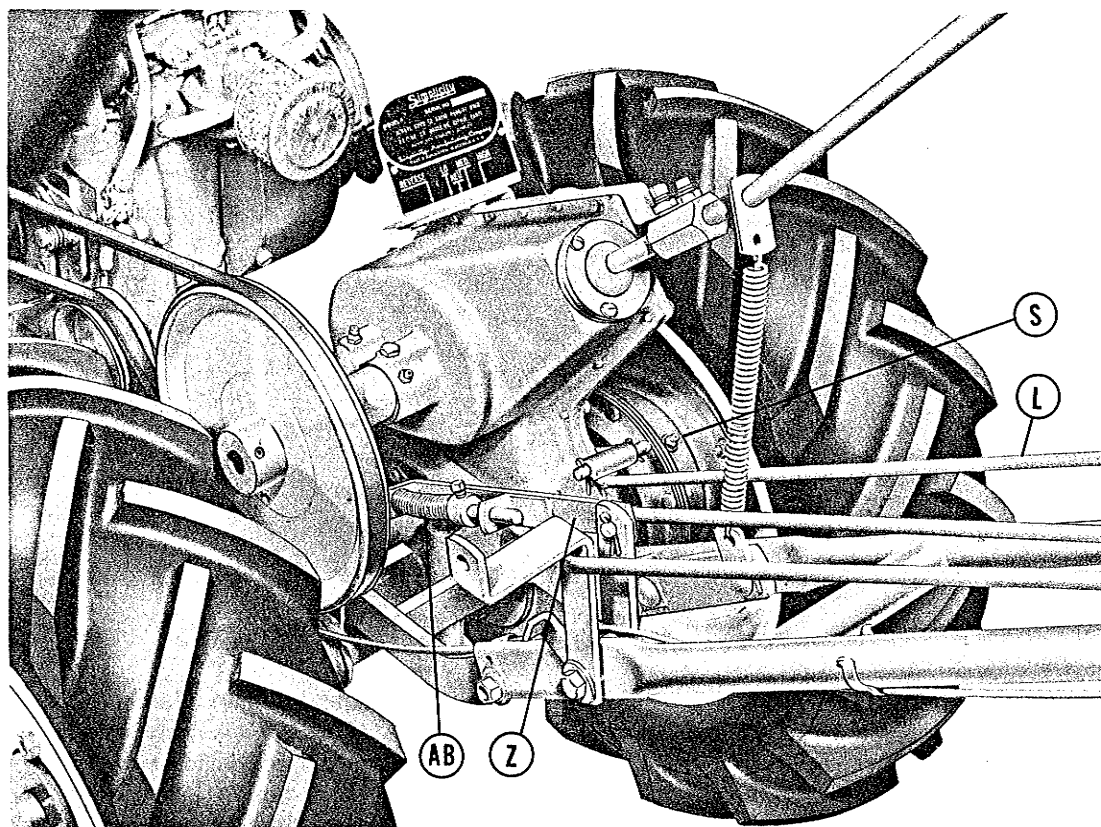

Fig. 2
1. Before bolting handles to the frame, insert the throttle cable (S) through the cable housing clamp (P) as shown.
3. When inserting upper left hand handle bolt, assemble lower clutch lever (V), lever stops (X), and lower clutch pivot lever (Y) as shown.
5. Attach upper clutch rod (U) to lower clutch lever (V) and left hand clutch lever (G).
6. Attach upper idler rod (T) to right hand clutch lever (E), then to lower clutch pivot lever (Y) and to idler clutch rod guide (Z).
7. Connect lower idler rod (AF) in guide assembly (Z) to idler lever (AH) as shown.
8. Thread one end of spring (BS) into lower spring holder (BT). Place upper spring holder (BR) over end of gear shift handle extension as shown and slip handle extension into coupling (N). Be sure countersunk hole in end of handle extension lines up with set screw, and tighten securely.
9. Thread other end of spring (BS) into upper spring holder (BR) and position spring holder on handle extension as shown, approximately 3 inches from coupling.
10. Attach throttle control lever (C) to left handle with throttle cable strung underneath. Screws and clamps for cable and throttle lever are in a mailing bag tied to throttle cable. Clamp throttle cable to handle with three clips (Q) as shown.
11. Attach shift rod (L) to clevis assembly. Hold in place with cotter pin as shown in Fig. 2.
12. Adjust rod guide (J) with nut to exert slight pressure on shift rod (L). This adjustment is important to keep the shift rod in desired position.